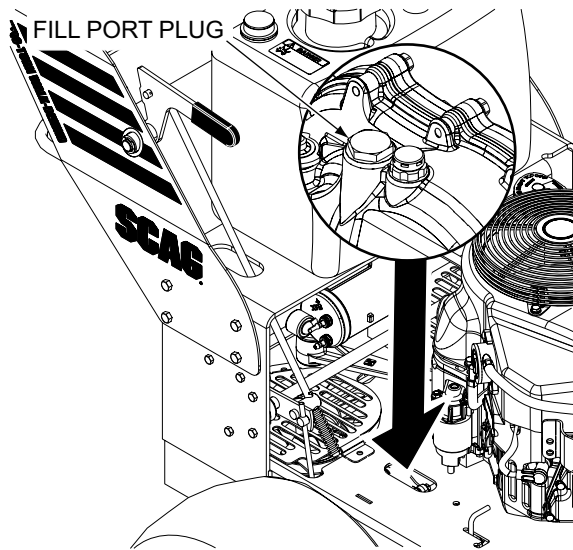

Figure 7-3. Right Side Fill Port Plug
8. Remove the fill port plug from the top of both transaxle. See Figure 7-3. Fill each transaxle with Scag Hydraulic System Oil (p/n 486255 - 1 Quart or p/n 486254 - 1 Gallon) oil until the oil just appears at the bottom of each axle side top port. Approximately 2 quart capacity per transaxle (4 quart total). Reinstall the top port plugs and torque to 180 in/lbs.